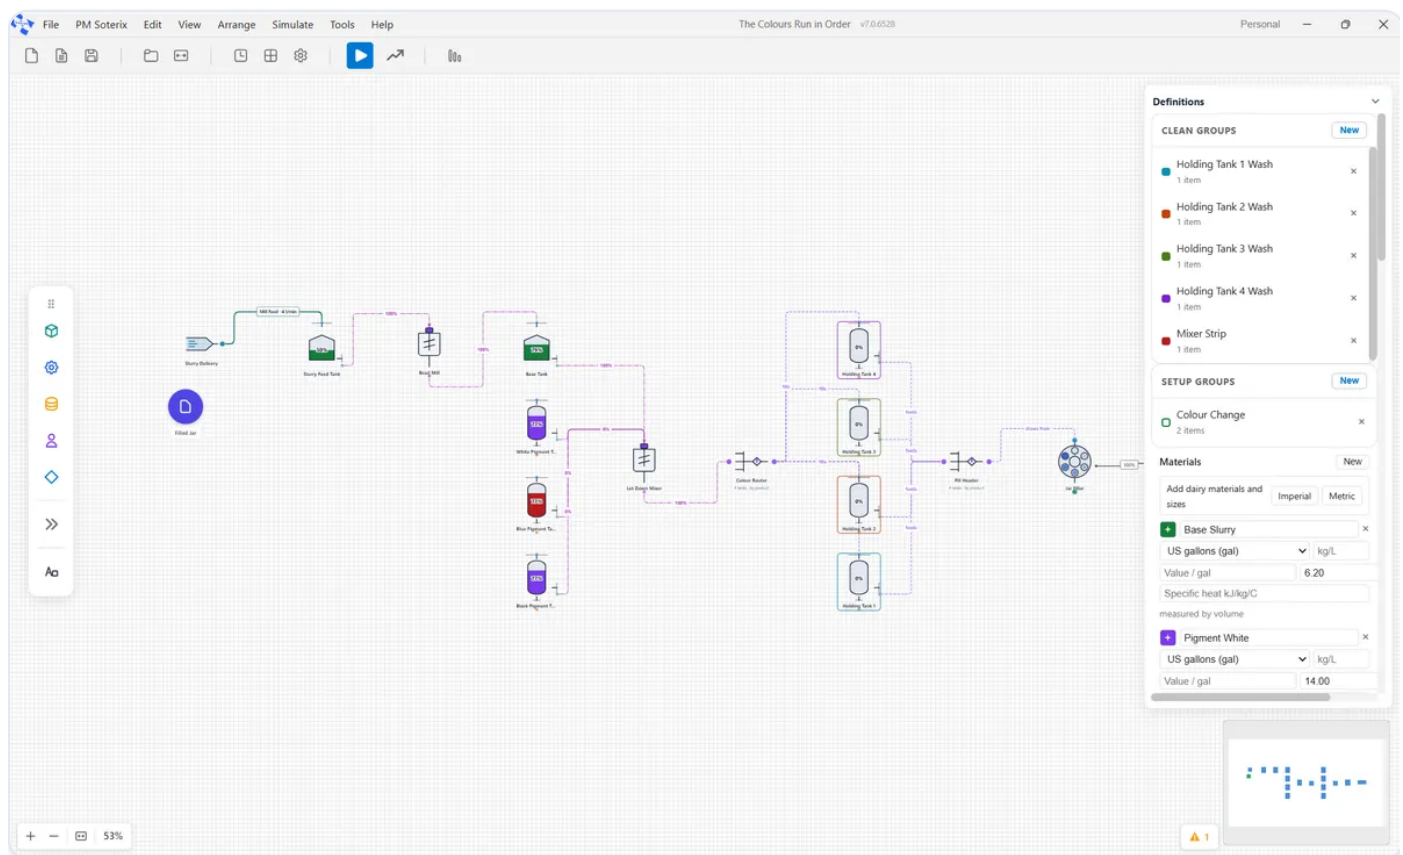

Figure 18. The Colours Run in Order. A ceramic paint line running six colors through four holding tanks.
- Figure 18. The Colours Run in Order. A ceramic paint line running six colors through four holding tanks.